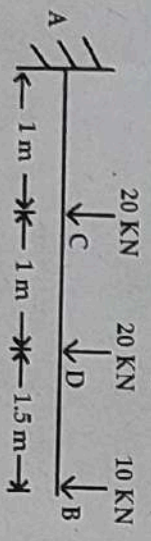

Figure 1
4. Draw the shear force and bending moment diagram of the cantilever beam as shown in figure 1 : 15